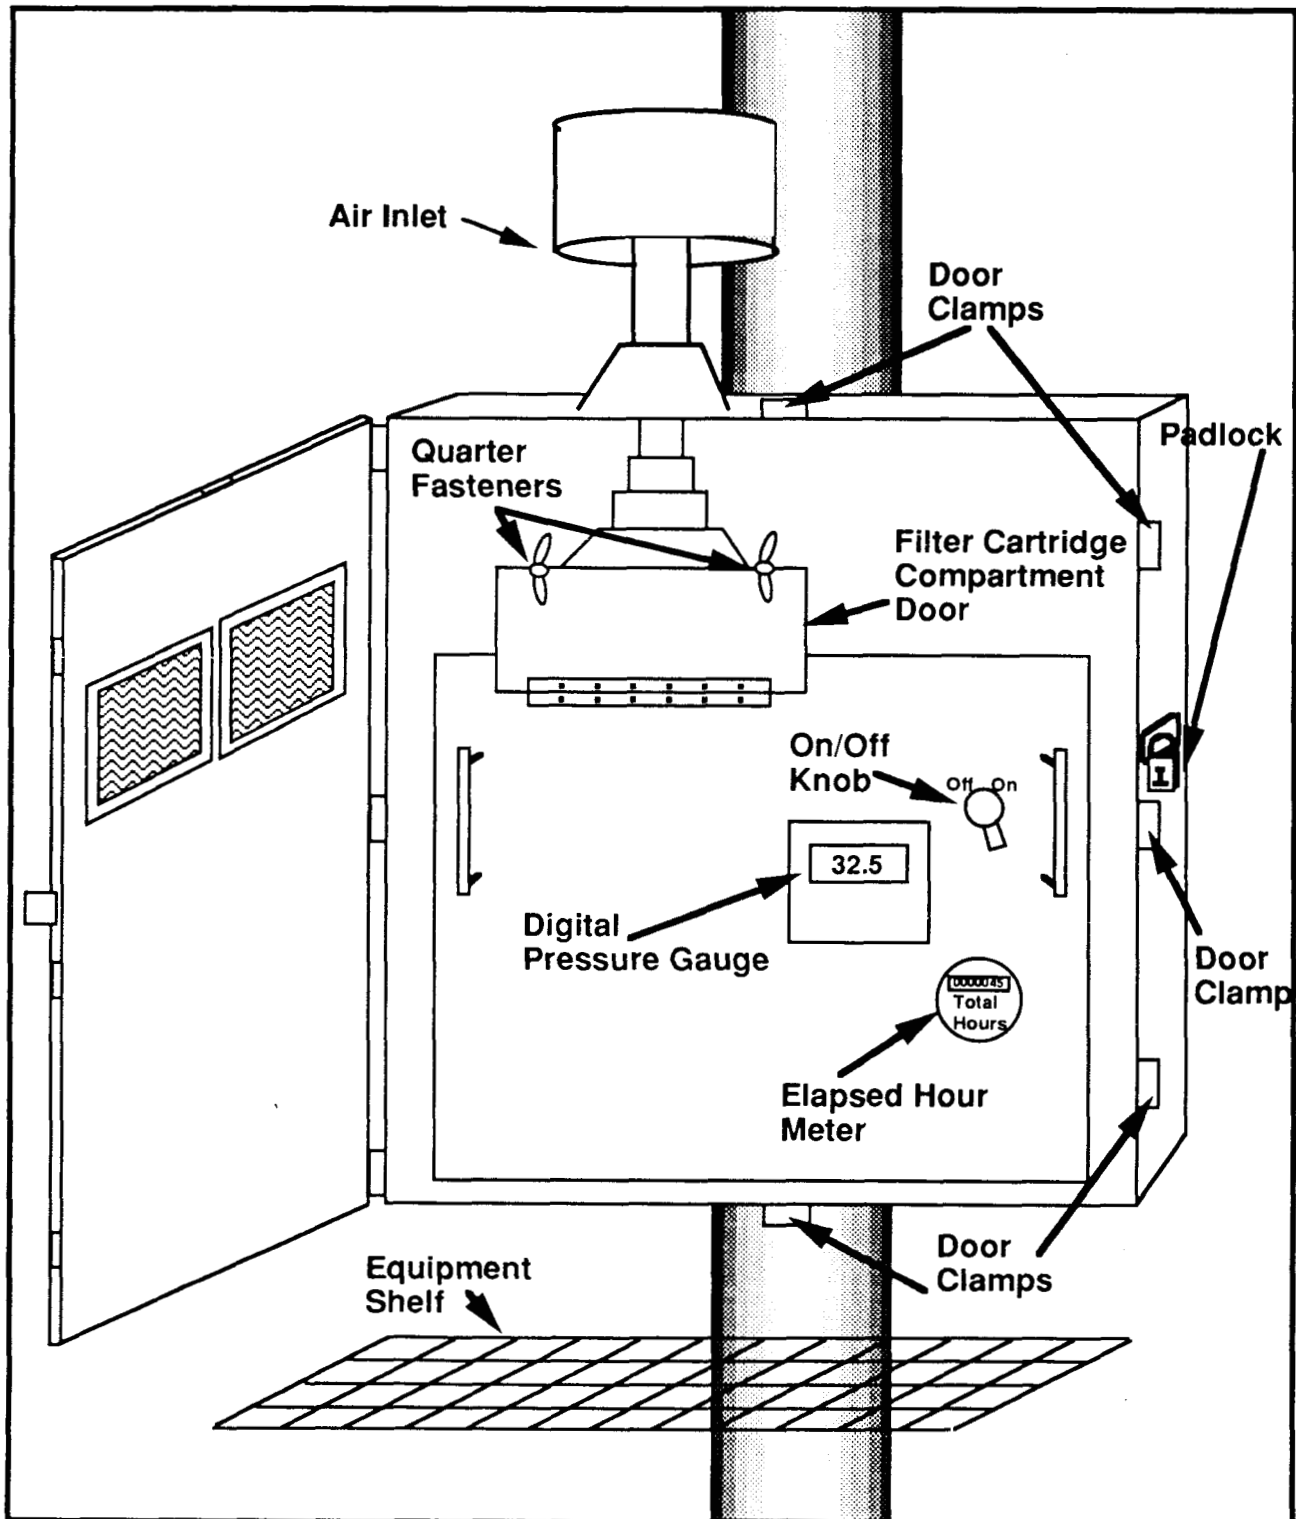

Figure 1, Routine Air Sampler
**NOTE** *Figure 1, Routine Air Sampler, depicts the parts of a routine air sampler, installed in 1994.*